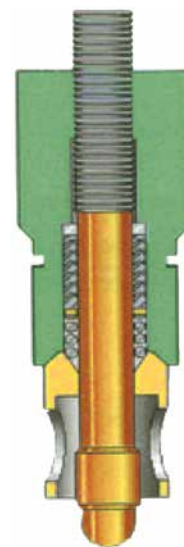

FIGURE 2.
5. Use an adjustment spanner with 1/4" diameter pin (Pt.#10525-S) to remove the packing gland, stem, spring, spacer and washers (Figure 2).